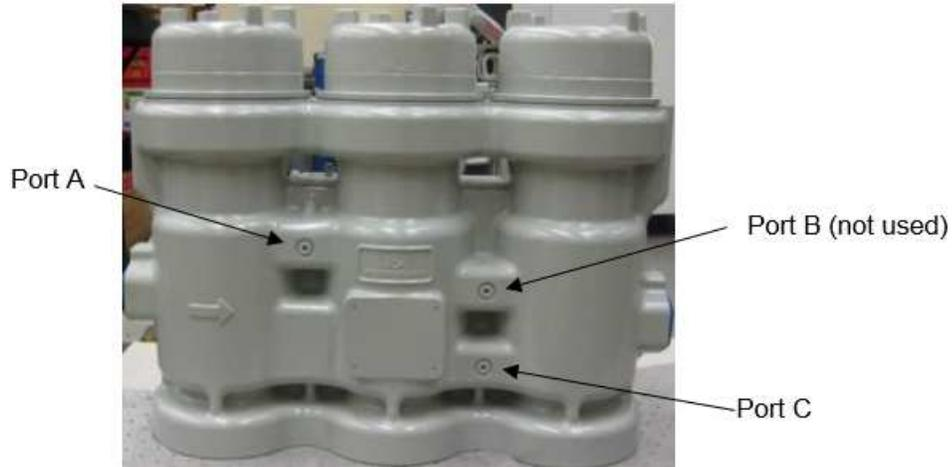

Figure 4-1. Pressure Test Ports
- o While the position feedback circuits and LED's are the preferred method to determine module valve position, three pressure ports are provided on the front of the QuickTrip unit. These may be connected to pressure gages or pressure transducers and may be used to determine the state of any module valve element. The image in Figure 4-1 below shows these pressure ports. Note that Pressure Port B is not used. These ports are for standard dash-4 straight thread port fittings (7/16-20 thread size).